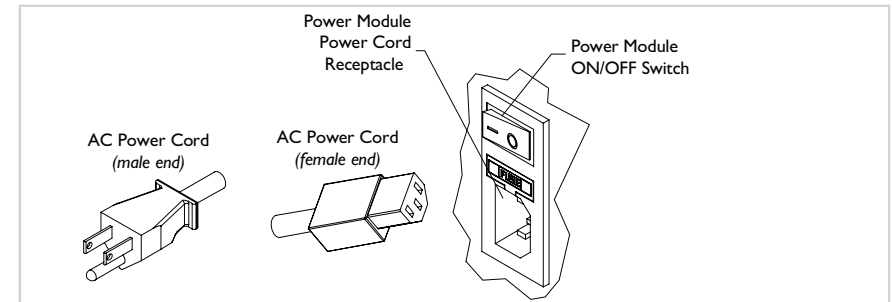

Figure 7: AC Power Cord Ends
2. Make sure that the Power Module ON/OFF switch is in the OFF position. See Figure 7.
3. Plug the female end of the AC power cord into the AC power receptacle on the Power Module. See Figure 7.
5. Turn the power ON/OFF switch to the ON position. See Figure 7.